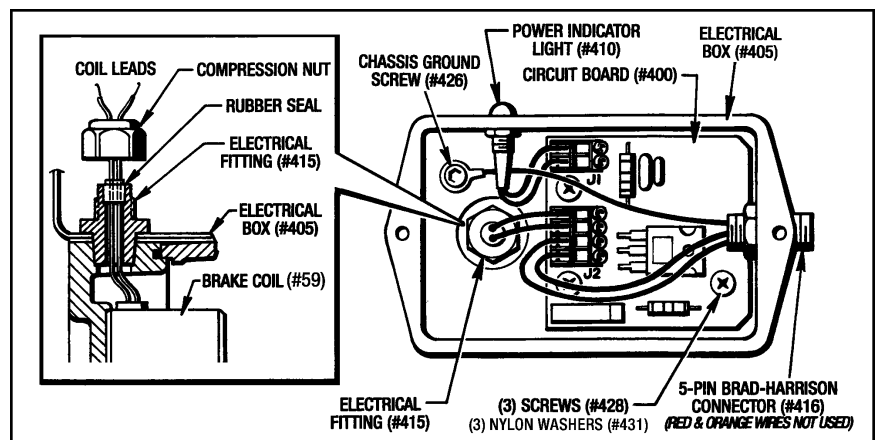

Figure 7.5 - Conduit Box with Cover Removed for Sizes MSB9 and MSB10
(See Figure 7.5)
- Take the cover off of the Conduit Box (#405) and disconnect the coil leads from J1 terminal strip located on the Circuit Board (#400). Also remove the compression nut from the Electrical Fitting (#415) and pry the rubber seal out of the fitting and off of the coil leads. (See Figures 7.5 or 7.6)
Electrical Fitting (#415). Tighten down the compression nut. (See Figure 7.5 or 7.6)
- Attach the coil leads to Terminal Strip J1 on the Circuit Board (#400) and replace the Conduit Box cover. (See Figure 7.5 or 7.6).